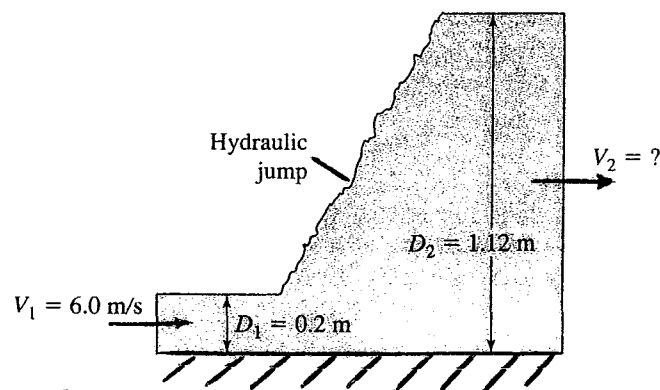

Figure 3
- 2 (a) A flow condition known as a hydraulic jump as illustrated in Figure 3. Let the upstream water height be D_1 and the upstream velocity be V_1 . Use the continuity and momentum equations to derive expressions for the downstream water height, D_2 , and downstream velocity, V_2 . Be sure to state any assumptions.